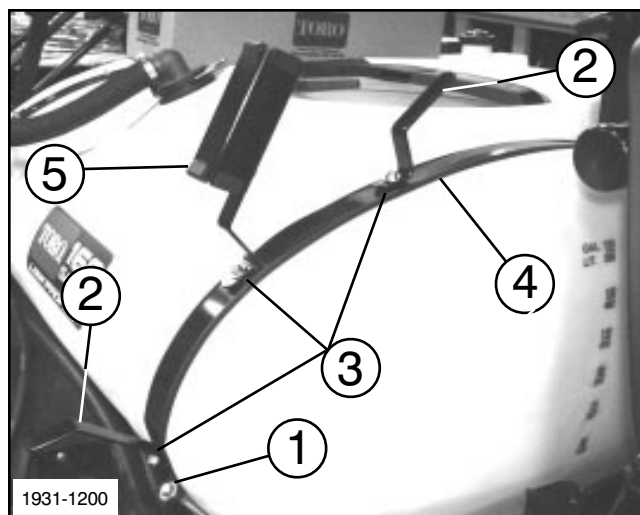

FIG. 2
4. Remove 5/16-18 x 3/4" Carriage bolt nuts to allow assembly of the Hose Hooks onto Tank Band as shown in FIG. 2. Secure Hooks onto Tank Band with (2) two 5/16 flat washers and 5/16-18 hex nuts.
5. Attach Hand Spray Mount to the second Carriage bolt from the bottom on the Tank Band. Secure with washer and nuts. See FIG. 2.